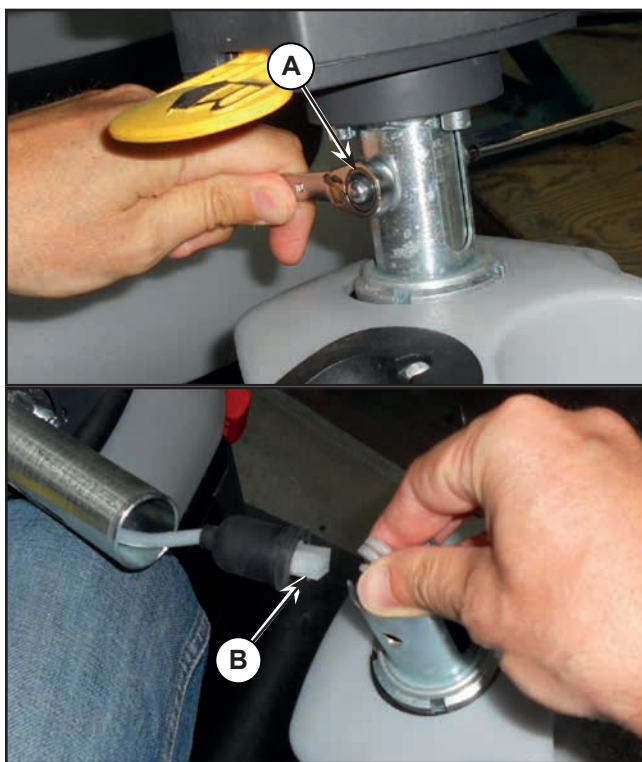
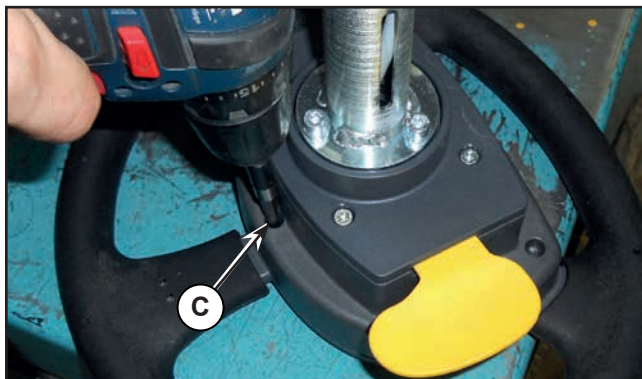

Figure 15:
Figure 16:
3. Remove the steering wheel mounting screws (A, Figure 15).
4. Lift the steering wheel group and disconnect the wiring harness connection (B).
5. At the workbench, remove the 6 screws (C, Figure 16).